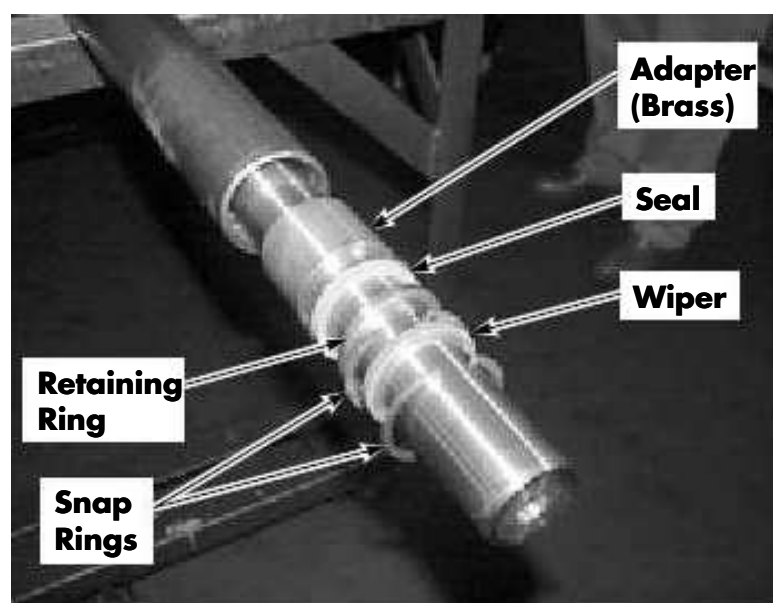

Figure 7-171. Packing Components on Side Cylinder
2. Remove snap rings, seals, retaining ring and brass adapter. See Figure 7-171.